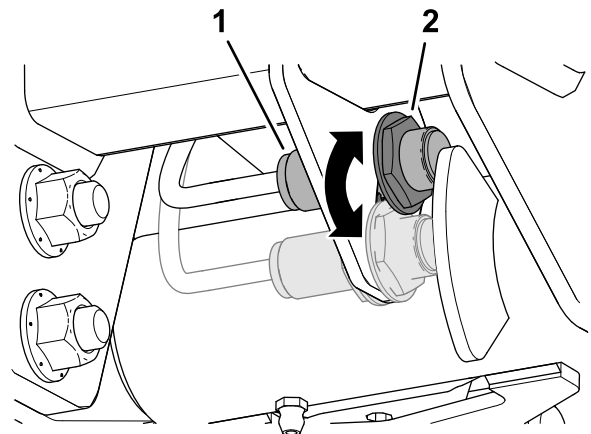

Figure 86
3. Loosen the jam nut that secures lift-arm switch to the switch plate (Figure 86).